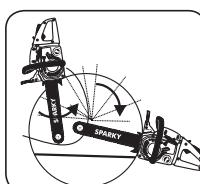

Fig. 10D
2. When diameter of wood being cut is greater than the bar length, make 2 cuts as shown (Fig. 10D).
WARNING: As the felling cut gets close to the hinge, the tree should begin to fall. When tree begins to fall, remove saw from cut, stop engine, put chain saw down, and leave area along retreat path (Fig. 10D).